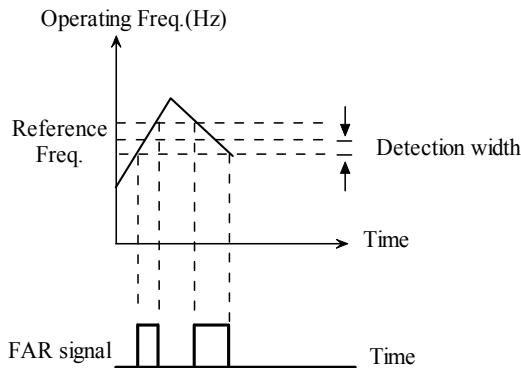

Fig. 5-3-8 FAR detection diagram
- ◆ This function used to adjust FAR detection bandwidth, when the output frequency reaches to the reference frequency. The adjusted range is from 0 to ± 10.00 Hz of reference frequency. If the inverter’s output frequency is within the detection width of reference frequency, a pulse signal will be output, as shown in Fig. 5-3-8.